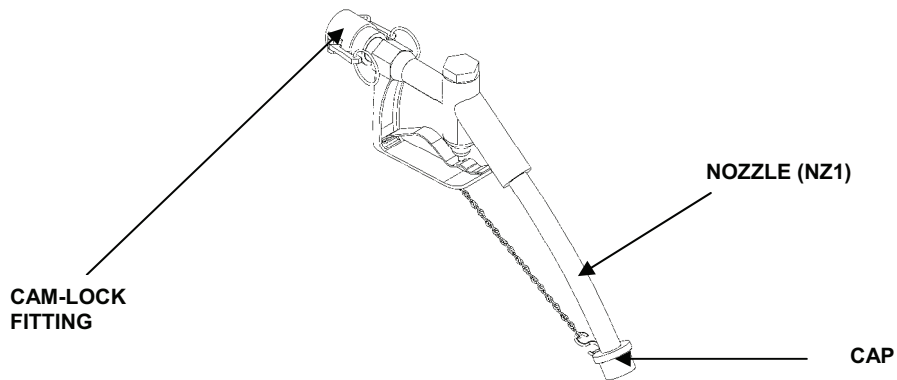

Figure 18. Product Water Nozzle.
40. Connect the other end of the fabric product water hose (blue) to the product water nozzle (NZ1). See Figure 18.